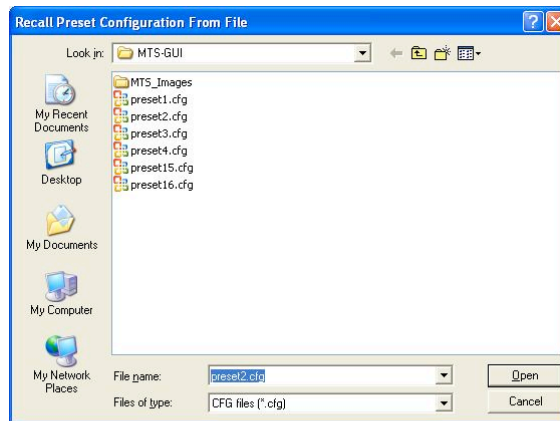

Figure 6-31: Recall Preset from File Menu
- The “Recall from File” pulls the data from the *.cfg file directly into the DSP flash for the selected preset. See Figure 6-31 below.